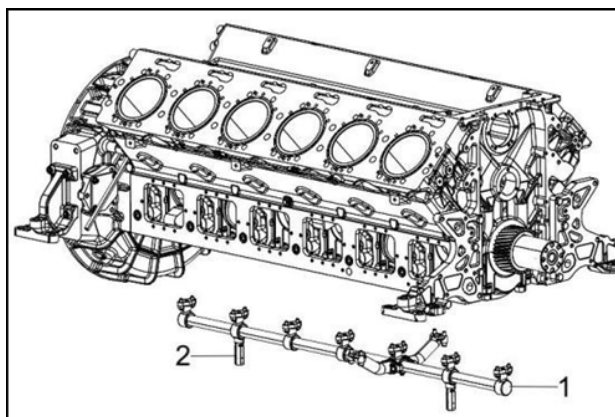

Figure 149.
1. Assemble the oil pressure limiting valve if removed (Figure 149, item 2).
2. Install the oil pipeline group (Figure 149, item 1).